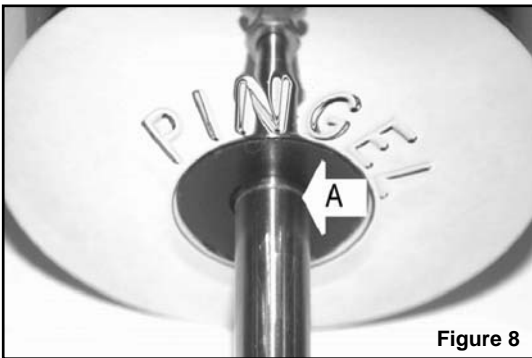

Figure 8
Before adjusting the shift cylinder up and down, make certain the motorcycle transmission is in neutral. While holding the shift cylinder housing, loosen the two screws on the clamp. Find the groove in the center of the cylinder shaft. Adjust the cylinder housing up or down so the groove in the shaft is even with the plastic bushing located on the bottom of the cylinder housing, as shown in (A) Figure 8. With the shift cylinder in the correct position, tighten the two bolts of the Pingel clamp.